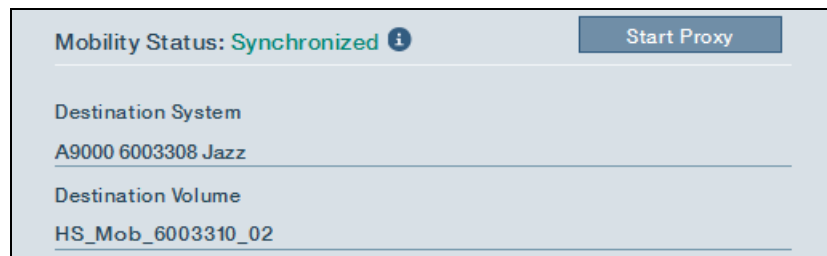

Figure 7-17 Start Proxy for IBM Hyper-Scale Mobility
- In the Hub view to the right of the Volumes tab, select **Start Proxy**, as shown in Figure 7-17.